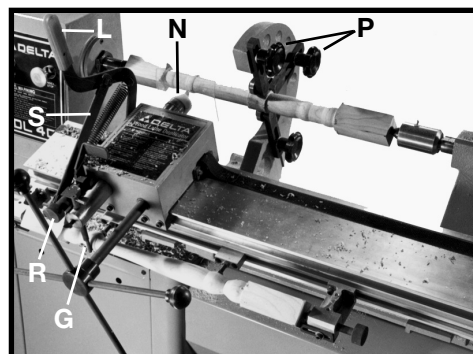

Fig. 83
Once the workpiece has a round surface, place a steady rest (P) Fig. 83 on the work to avoid vibration. Continue advancing the cut in 1/8" increments, using the spring handle (L), tool engagement levers, and fine adjustment knob (R) to follow the contours of the turning. **IMPORTANT:** Always pull back on handle (L) before advancing tool engagement lever (S).
When turning a workpiece of varying diameters, start the follower arm (G) Fig. 83 on the largest diameter and work down to the smaller diameter. Perform final operation by moving carriage (N) Fig. 83 and sanding workpiece.